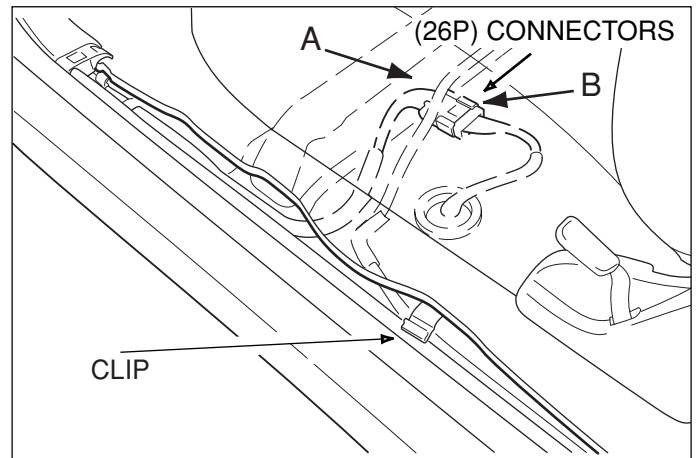

Fig. E4
- ➔ i. Release the carpet clip. (Fig. E4)
- ➔ ii. Unplug the vehicle's (26P) connectors. (Fig. E4)